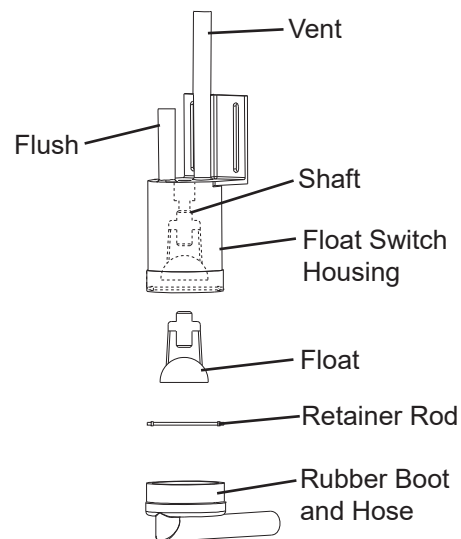

Fig. 2
- 4) Disconnect the vent tube and the flush tube from the top of FS, then remove FS assembly and remove the rubber boot from the bottom of FS assembly. See Fig. 2.